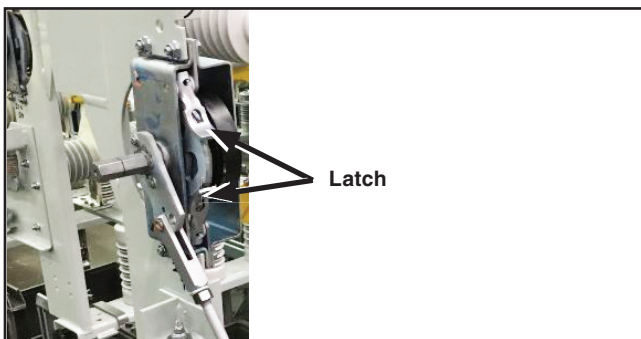

Figure 3. Quick-make, quick-break mechanism
STEP 4. Check for blade alignment as follows: Release the latch on the quick-make, quick-break mechanism. See Figure 3. Then, move the blades by hand, or by means of the operating handle, toward the **Closed** position. Advance the blades only to the point where they begin to enter the arc compressors.
Note: For ease of opening or closing the switch, release the appropriate latch on the quick-make, quick-break mechanism. See Figure 3 on page 14.
- Switch locking cam, positioned on the hex drive shaft so that, with the switch in the **Open** position, the straight portion of the indented side of the cam is 50 degrees from the horizontal, as indicated (For ease of opening or closing the switch, release the appropriate latch on the quick-make, quick-break mechanism. See Figure 3 on page 14.)